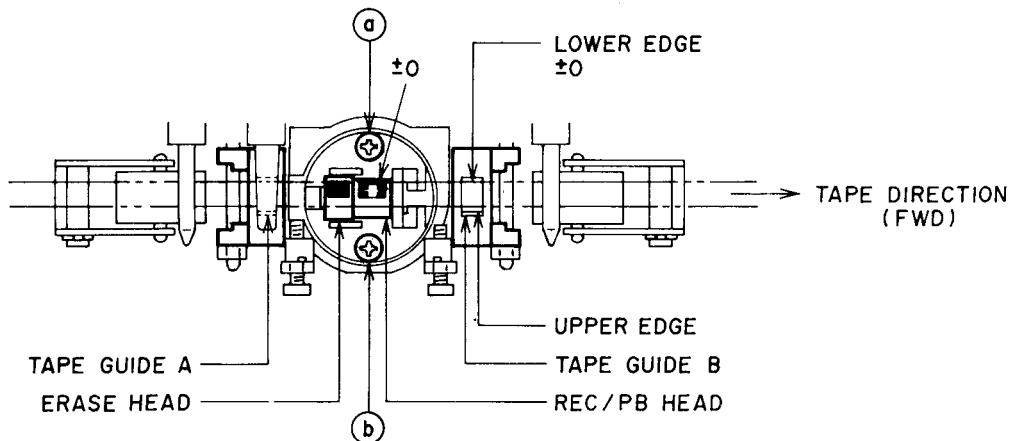

Fig. 6-1
6-1 TAPE GUIDE ADJUSTMENT (Refer to Figs. 6-1, 6-2, & 6-4)
- 5) When the head replacement is necessary, loosen only the screws **a** & **b** in Fig. 6-1 for easy replacement.